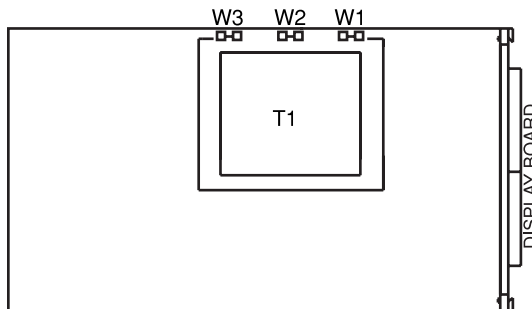

Figure 3.1 Main Board Power Jumpers
2. Locate the solder jumpers W1, W2, and W3 (located near the edge of the main board alongside the transformer - refer to Figure 3-1).
Figure 3-1 shows the location of solder jumpers W1 through W3 on the main board.